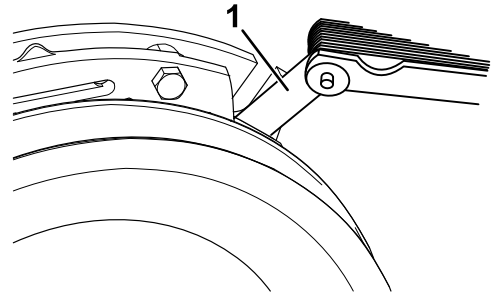
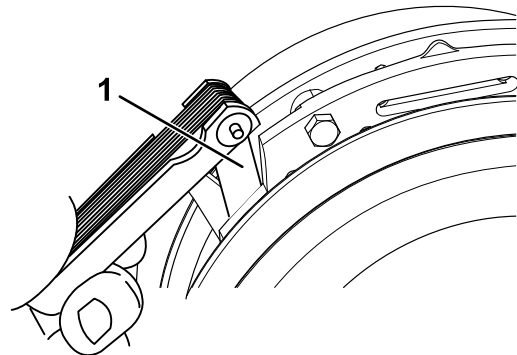

Figure 72
Figure 73
- E. Using a 0.010 inch thick-feeler gauge, verify that a gap is present between the rotor and armature face on both sides of the brake pole as shown in Figure 72 and Figure 73.